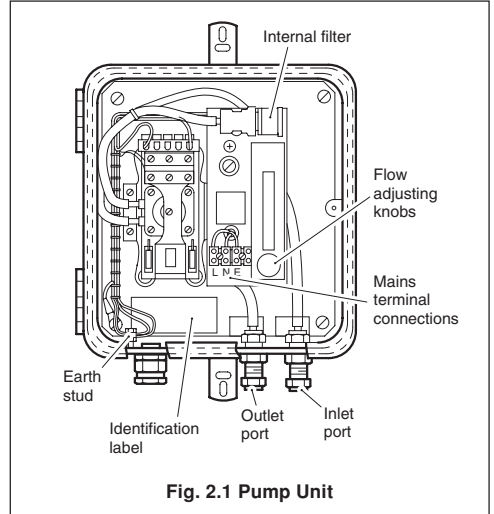

Fig. 2.1 Pump Unit
2.1 Checking the Instrument Code Number – Figs. 2.1 and 2.2
4.1 003000240 Pump Unit – Fig. 2.1
Switch on the electrical supply. Open the case lid and adjust the flow adjusting knob (see Fig. 2.1) to achieve the required air flow rate. Turning the knob clockwise reduces the air flow rate.